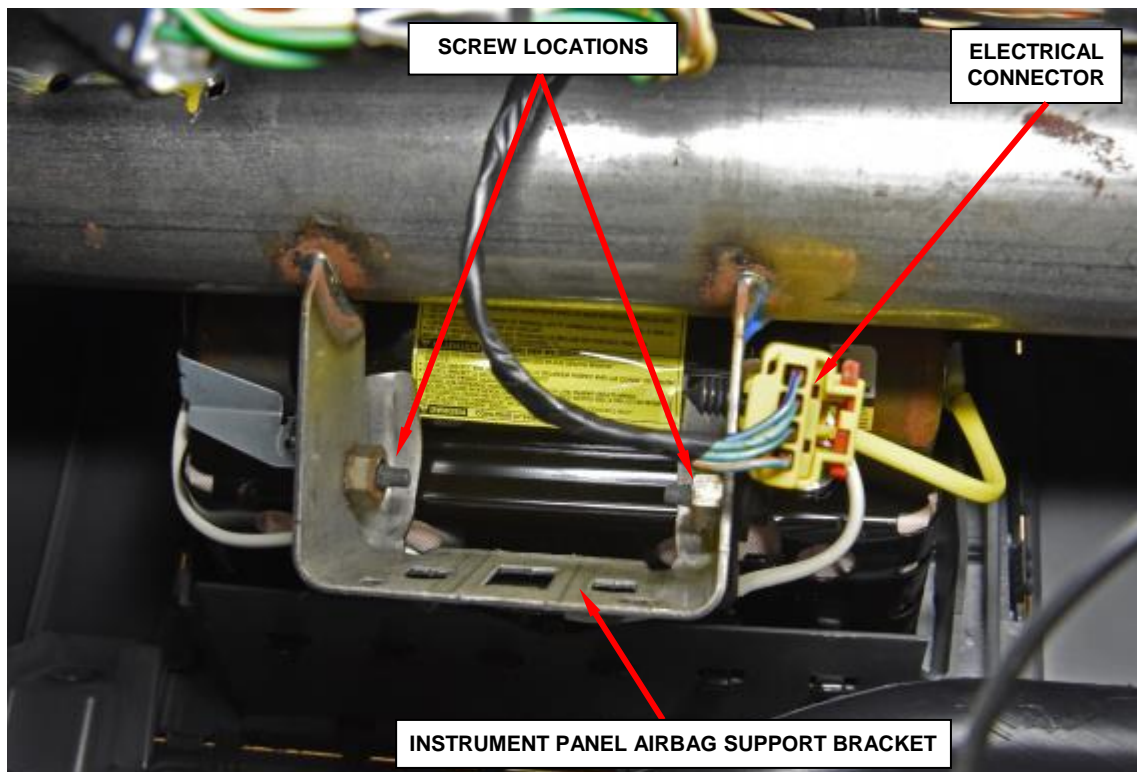

Figure 3 – Airbag Module (View through glove box opening)
8. Reach up into the instrument panel between the upper glove box opening reinforcement and the cross car beam to access and disconnect the instrument panel wire electrical connector from the airbag inflator pigtail wire connector on the right side of the instrument panel airbag support bracket (Figure 3). To disconnect the connector:
9. Remove and save the two screws that secure the passenger airbag lower bracket to the instrument panel airbag support bracket (Figure 3).
10. Disengage the airbag inflator pigtail wire connector from the instrument panel airbag support bracket (Figure 3).